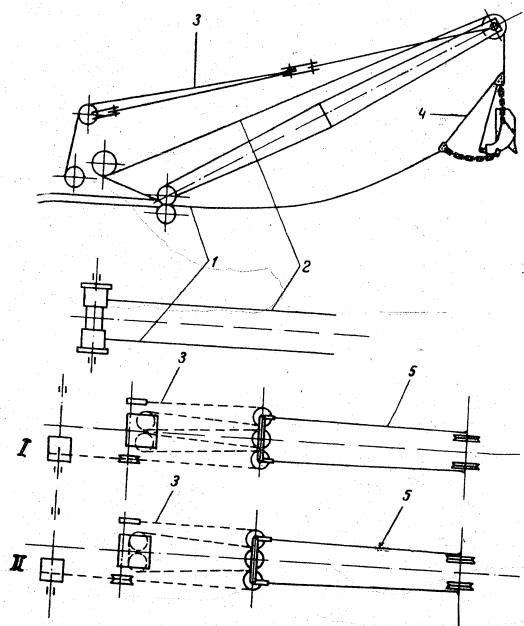

Fig. 9. Cable Reaving for Dragline Operation:
3. Reeve the boom-hoist cable. Reeve one end of the hoist cable on the LH drum of the main winch in conformance with the cable reeving diagram (see Fig. 9) and the other end at the thimble of the dump drum of the dragline bucket and then lift the boom.
For a 10-m boom one of the ends of boom-hoist cable 3 is fastened in the thimble of the A-beam and then successively as shown in Fig. 9 passes through the tackle sheave, horizontal sheave of the A-beam, middle sheave of the tackle, second horizontal sheave of the A-beam, tackle sheave, guide sheave of the A-beam and the end is reeved in the boom-hoist drum by means of wedges.
The boom-hoist cable for a 13-m boom is performed with 4 lines (see Fig. 9).